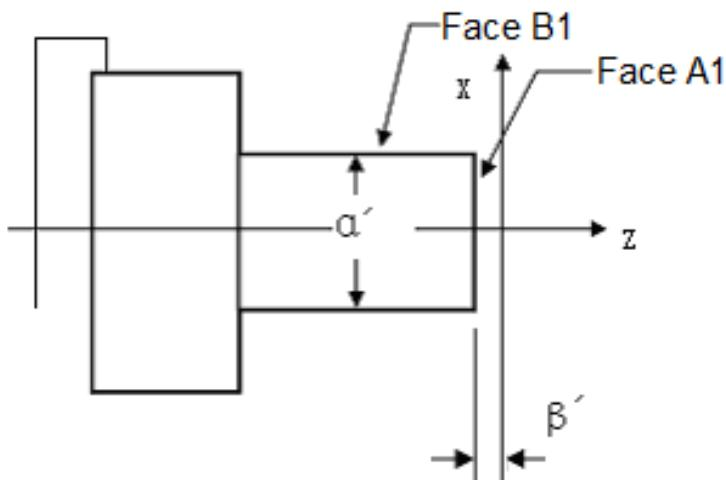

Fig.7-9
(12) The tool is cut along surface A1, which is shown as Fig. 7-9;
(13) When Z axis is not moved, the tool is retracted along X axis and the spindle is stopped revolving; Measure the distance " $\beta'$ " between surface A1 and the origin of the workpiece coordinate system (assume  $\beta'=1.0$ );